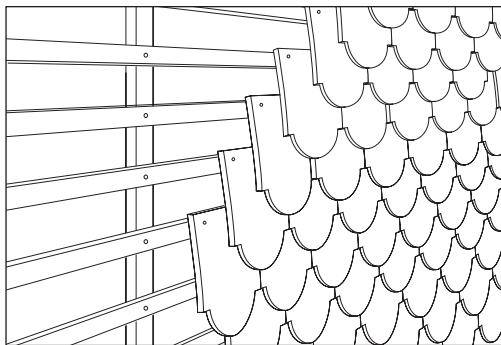

Fig 76 – Feature tiles laid over battens and counter-battens
- On masonry construction, fix Plain and Feature tiles either direct to battens or to battens and counterbattens, securely fixed to the wall with cut nails. (If dense concrete blocks are encountered, seek advice on fixings from block manufacturer). Use of counterbattens reduces amount of direct nailing to plugs or timber plates embedded in the wall. Counterbattens also increase ventilation around tiling battens. (Fig 76).